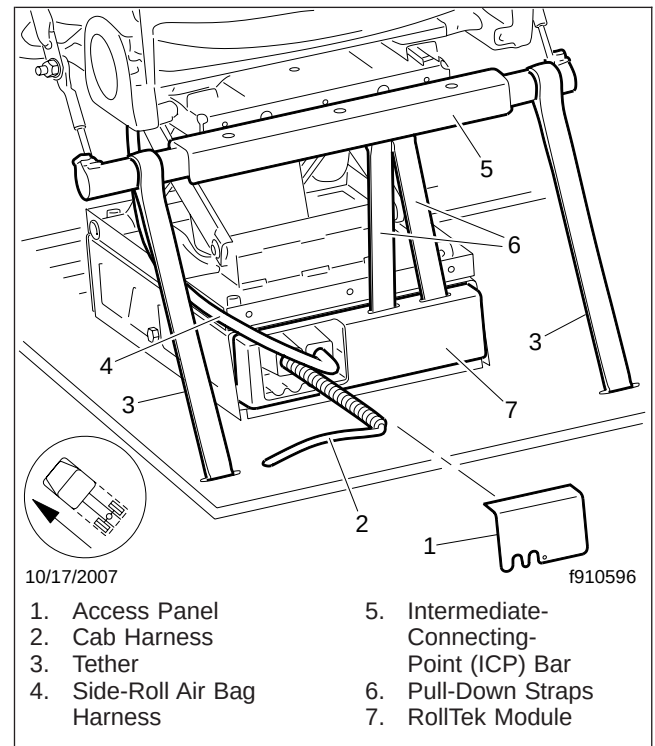

Fig. 1, RollTek Module Wiring Access
6. Remove the access panel from the back of the RollTek module; see Fig. 1.